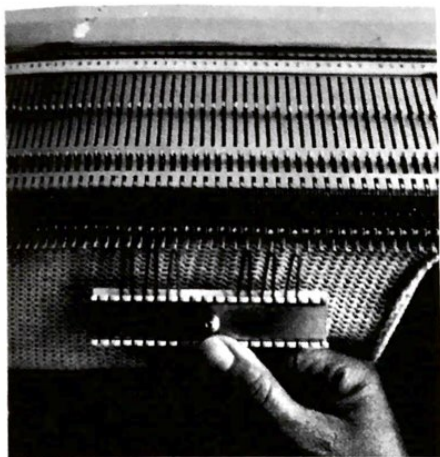

Fig. 50
- (c) Hook each loop onto every alternate needle hook. (Fig. 50)